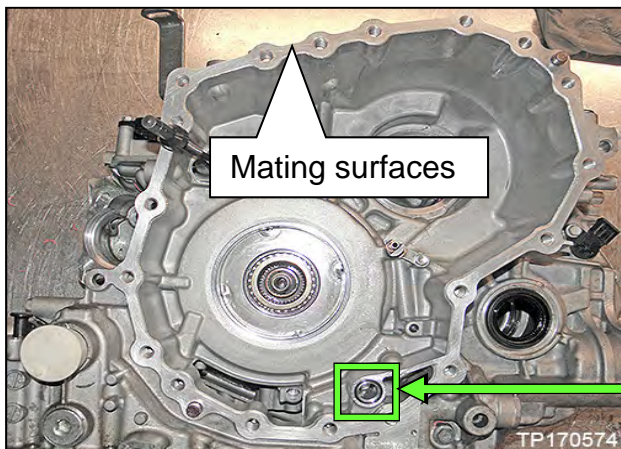

Figure 83
59. Remove the lifting fixture from the sub-assembly and replace all six (6) original bolts.
60. Thoroughly clean the mating surfaces of the CVT case (Figure 83) that the sub-assembly was just separated from (a plastic scraper can be used).